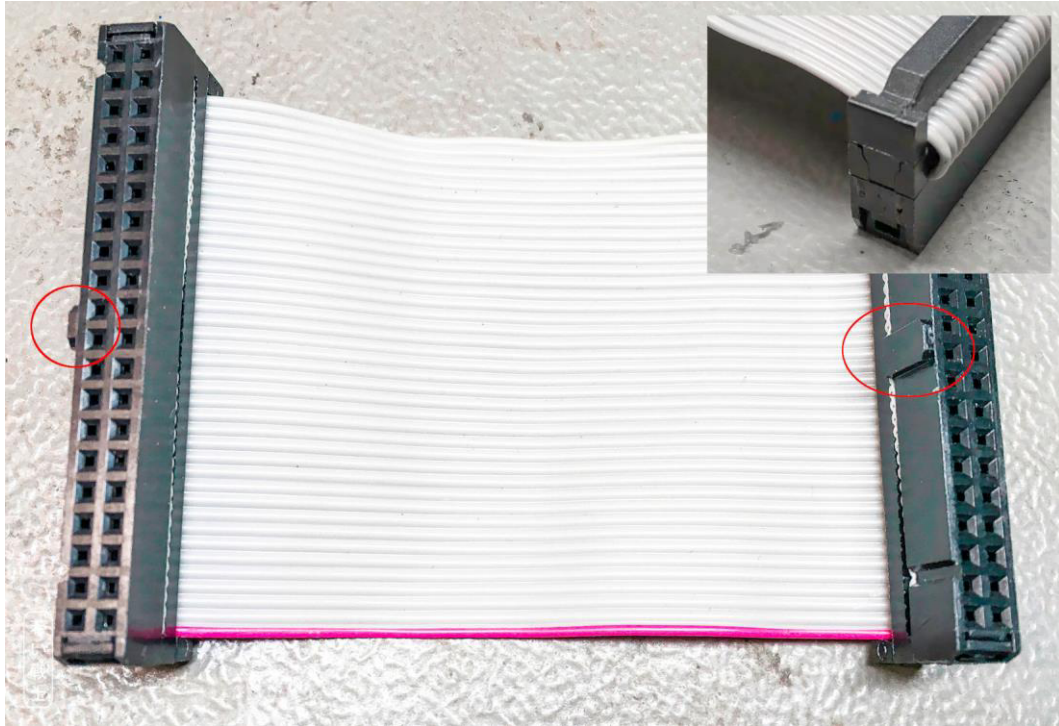

Figure 10: Ribbon cable
- Insert the cable into the IDC receptacle, be aware of the orientation (Figure 10, rec circles)
- bend the ribbon cable over the top of the connector and install the strain relief (Figure 10, top right).